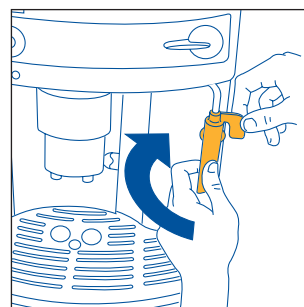

Fig.25
- Turn the knob clockwise as far as it will go. With one hand, hold the cappuccino tube firm and with the other unscrew the cappuccino maker itself by rotating clockwise and extracting downwards (fig. 25).